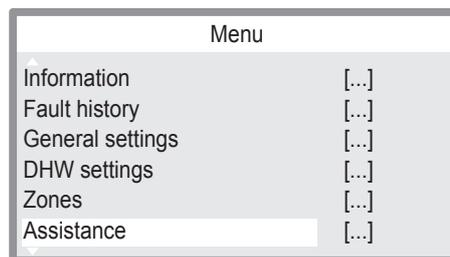

Figure 9.9
- 2 Press key "A" or "B" (Figure 9.7) to select the desired menu (Figure 9.9).